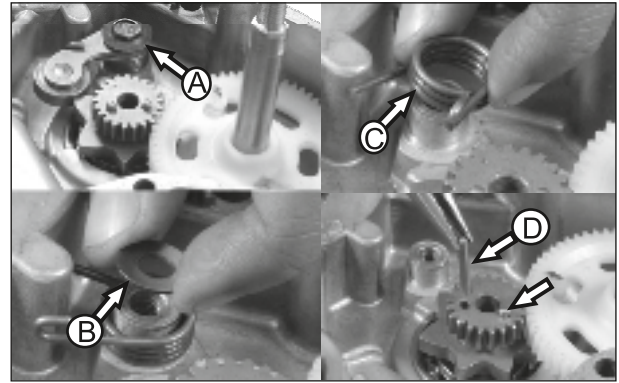

Fig. 3.28
- Loosen and remove the bolt, Gear Shift Cam Stopper. (A)(Fig. 3.28)
- Take out the stopper complete gear shift and special washer 6X12X1 along with spring gear shift cam Stopper. (B & C) (Fig. 3.28)
- Pull out the locator pin index.(D) ( Fig. 3.28)